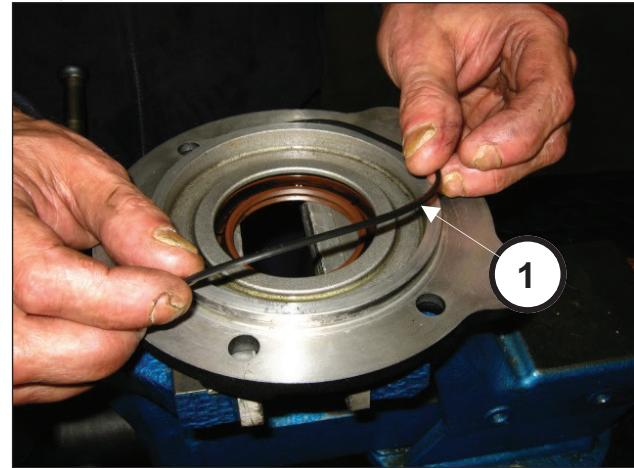

Fig. 92
Apply the O-ring to the pinion cover (pos. ①, Fig. 92).